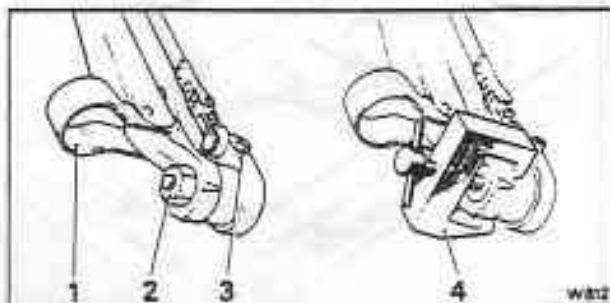

Fig. S10-1 Removing the windscreen wiper blades and arms
4. Remove the wiper blades and arms as follows (see fig. S10-1).